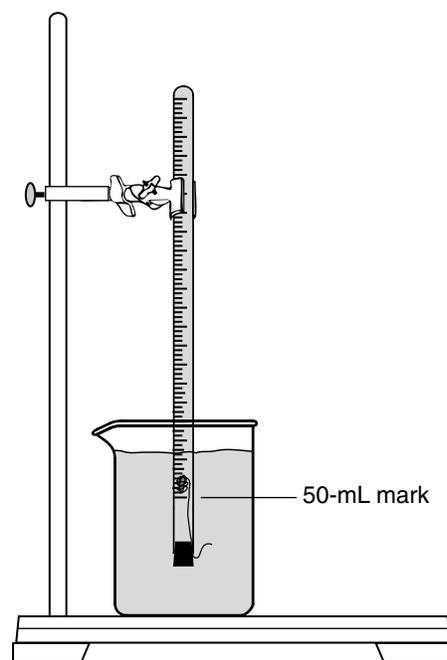

Figure 3.
10. Insert the magnesium–copper wire–stopper assembly into the eudiometer tube. The magnesium piece should be above the 50-mL line on the eudiometer tube (see Figure 3).
11. Place your finger over the hole of the rubber stopper, invert the eudiometer tube, and carefully lower the stoppered end of the tube into the 400-mL beaker containing water. The tube should contain no air bubbles. Clamp the tube in place (see Figure 3).